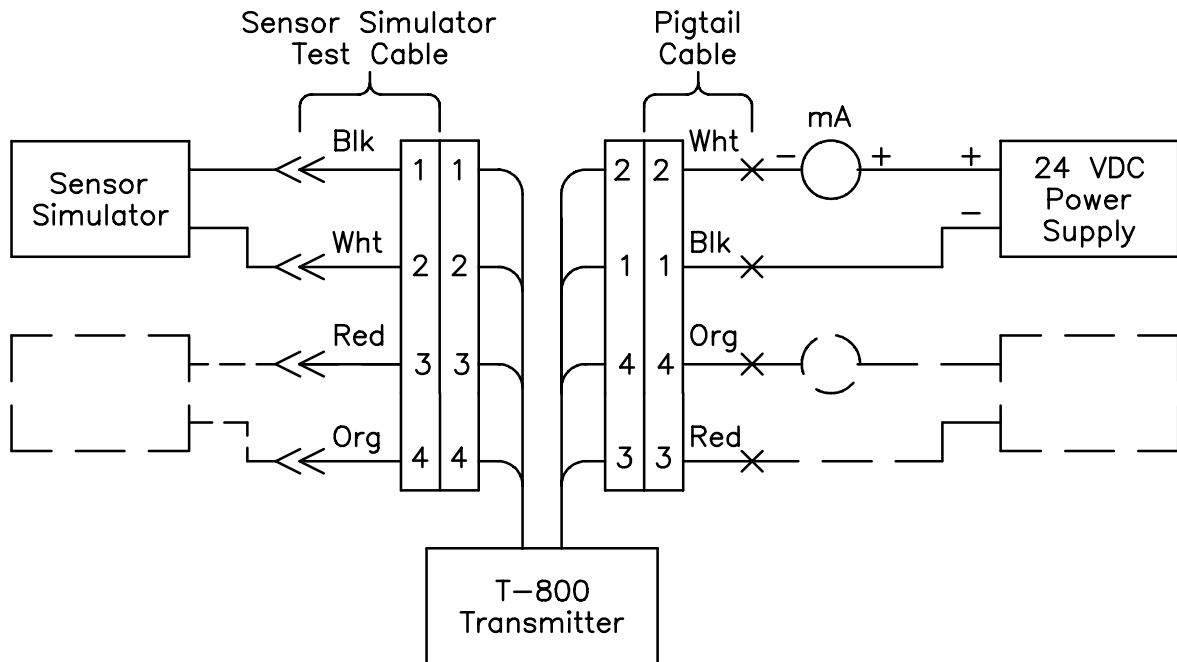

Figure 4.7 Bench Connection for Calibration
- a. If performing initial calibration on the bench, connect the transmitter to a power supply and milliammeter per Figure 4.7. Note that connections shown in dashed line are for second channel.
- e. Reconnect sensor simulator, power supply and milliammeter per Figure 4.7 (Channel 2).